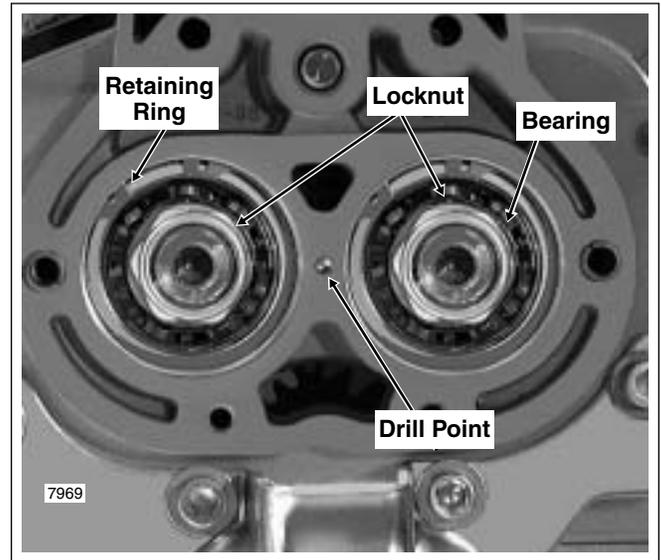

Figure 7-23. Side Door Bearings
Note that one side of the retaining rings are beveled. Always install the ring with the beveled side opposite the bearing. Side doors using the beveled retaining rings are marked with a "drill-point" hole between the bearing bores. See Figure 7-23.
- Install a spacer and locknut on the threaded end of each shaft and tighten the nuts until finger tight. See Figure 7-23. Final tightening is performed under INSTALLATION, steps 5 and 6.
6. With the transmission locked, tighten the mainshaft and countershaft locknuts to 45-55 ft-lbs (61-75 Nm). See Figure 7-23.